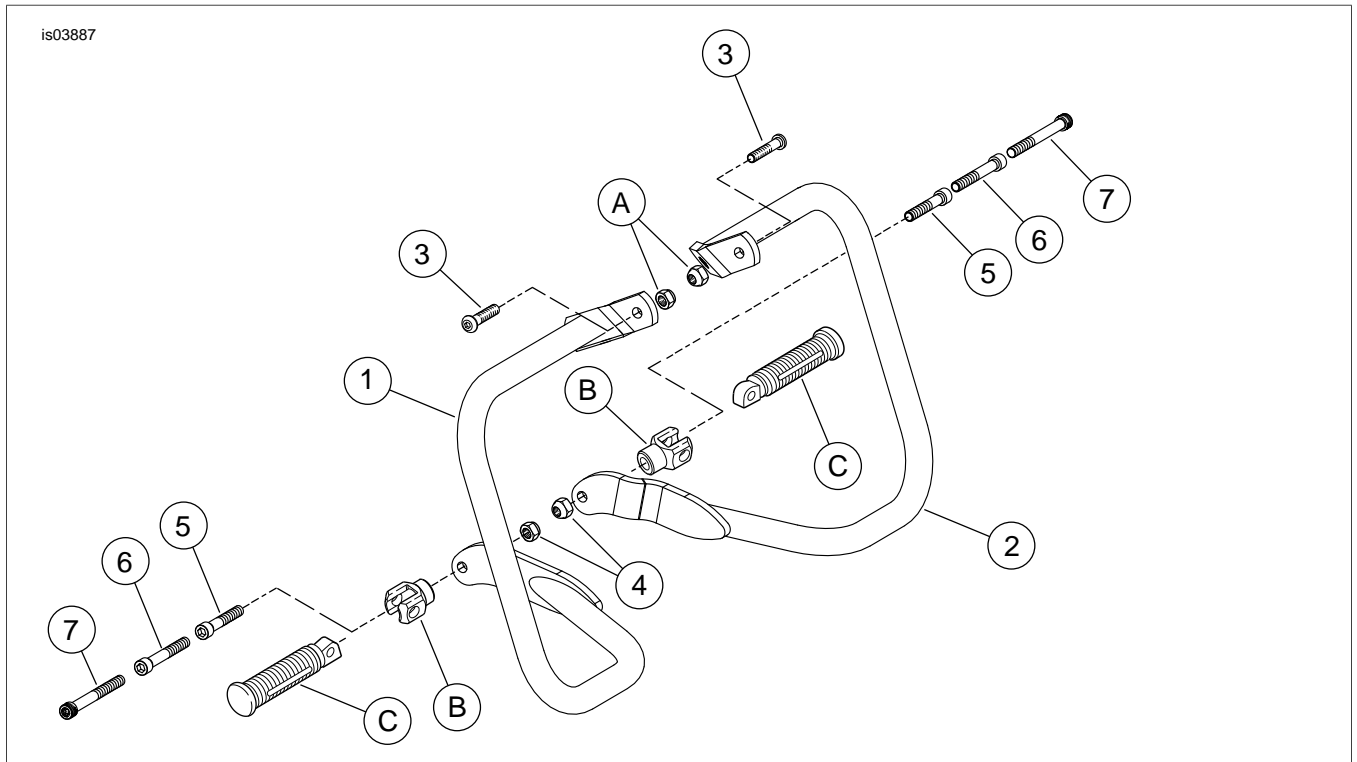

Figure 3. Service Parts: Softail Rear Saddlebag Guard
See Figure 3 and Table 1.
5. Position bottom flange (6) of saddlebag guard (4) against inboard surface of motorcycle frame (7) at location where passenger footpeg (2) (or passenger footboard bolt) attaches. If Heritage-Style Saddlebag relocation kit, Part Number 90238-00 is to be installed, the bracket should be positioned between the saddlebag guard flange and the motorcycle frame member. Follow installation instructions included with that kit.
6. See Figure 3. Determine your model application and follow the applicable installation procedure below: